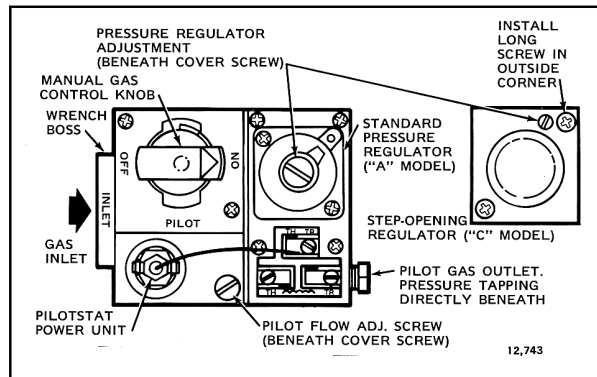

Fig. 3—Top view of standard capacity models.
2. Mount the control so gas inlet is on the end with projecting wrench boss. Refer to Figs. 3 and 4.
6. Connect pipe or coupling to control inlet and outlet. To tighten inlet and outlet connections, use wrench on wrench boss only. Refer to Figs. 3 and 4. If tubing is used, connect tubing to coupling.
3. Unscrew brass compression fitting from the pilot outlet (Fig. 3 or 4). Depending on gas control model, fitting supplied may be for 1/8 or 1/4 in. tubing. Slip the fitting over the tubing and slide out of the way.
2. With main burner operating, check gas control outlet flow rate using the meter clocking method or outlet pressure using a manometer connected to the outlet pressure tap on the control. Refer to Fig. 3 or 4.